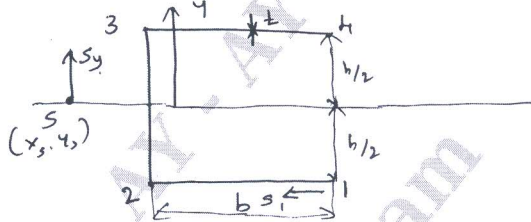

Fig.Q2
- 2 Calculate the position of the shear center of the thin walled channel section shown in the Fig.Q2. the thickness t of the wall is constant.